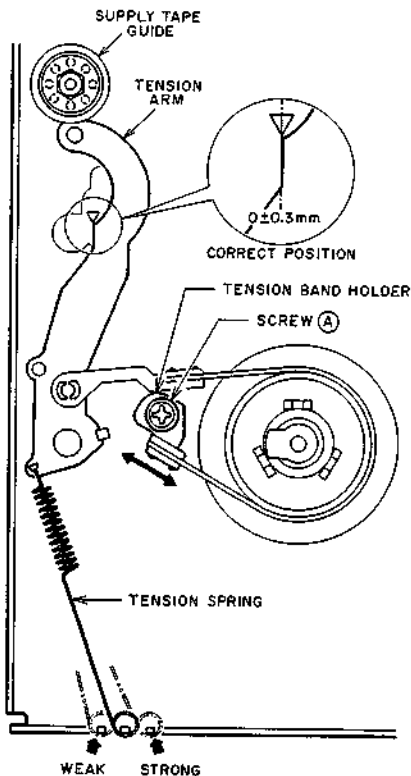

Fig. 5-1
- 3) In the Play mode, loosen the screw (A) and set the Tension Arm position to the correct position as shown in Fig. 5-1 by the Tension Band Holder position, then tighten the screw (A).